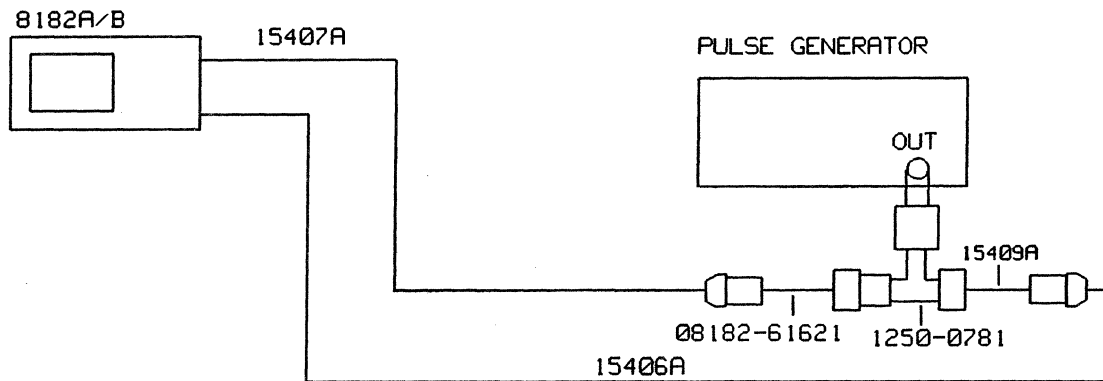

Figure 7-3. Test Setup for the Sampling Point Accuracy and Skew Test
9. Connect the equipment as shown in Figure 7-3 and press RUN. (Start with Connector 0 Channel 0.)